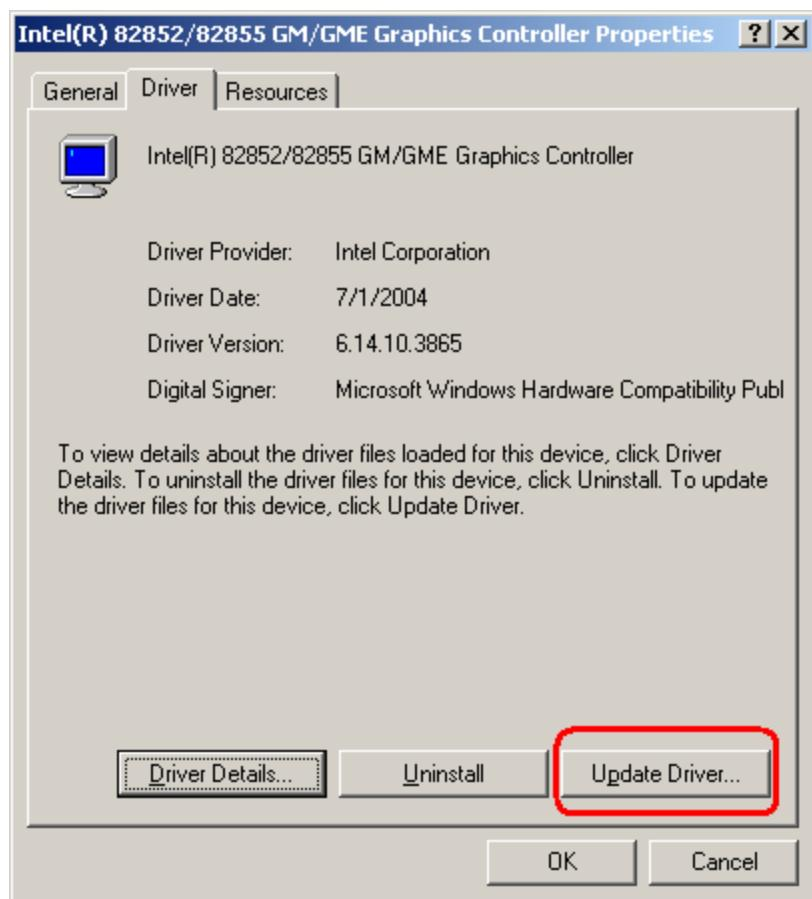

Figure 7-8: Update Driver
Step 6: From the **Driver** tab of the **Properties** window, click **Update Driver** (Figure 7-8)